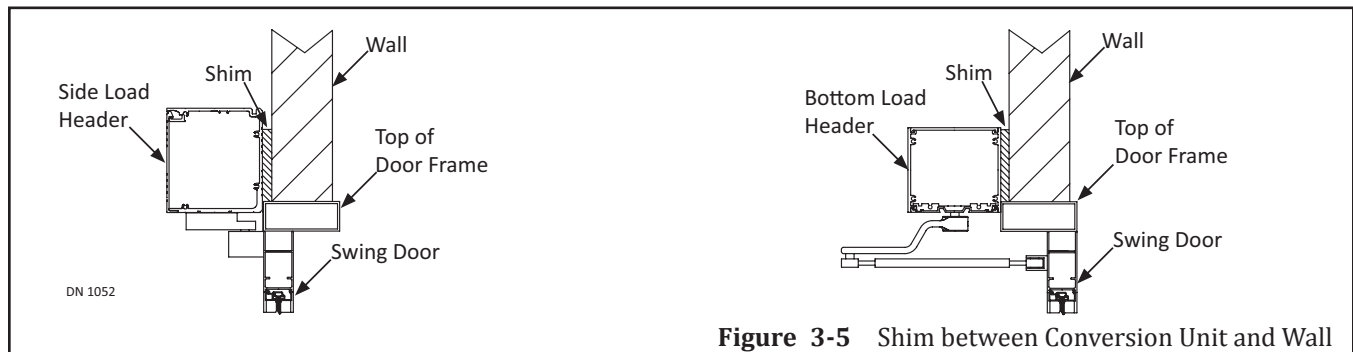

Figure 3-5 Shim between Conversion Unit and Wall
5. Obtain (1) Shim to be the same depth as measurement #1; no higher than measurement #2; and about the same width of Header including Brackets.
6. Secure the Shim to stud(s). Please see Figure 3-5.